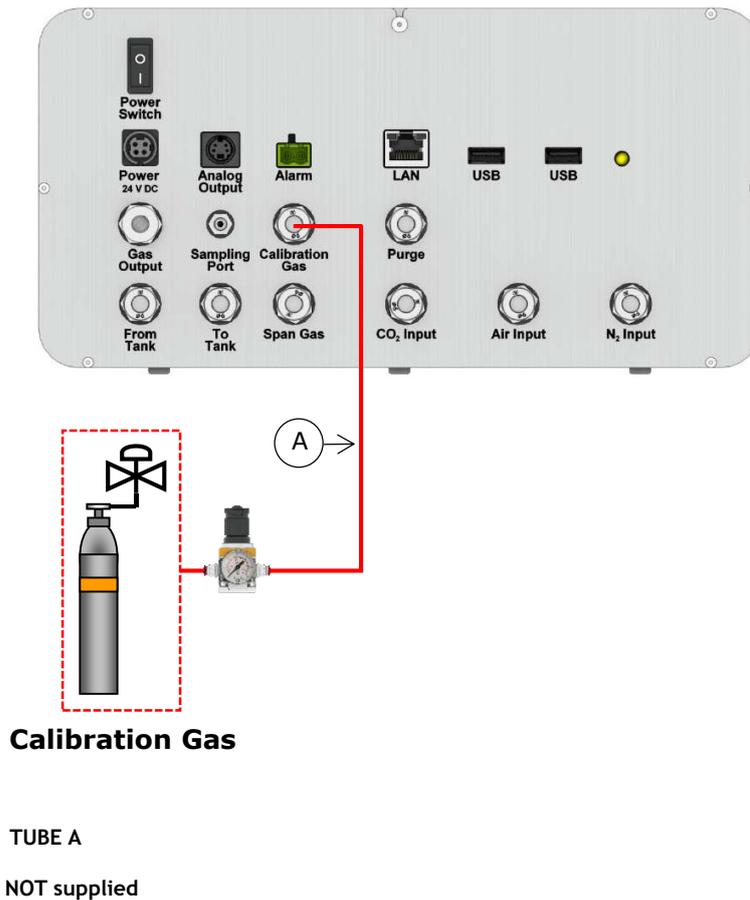

Figure 14 Calibration gas tank connection
- If a calibration gas tank is available (not supplied by Okolab), introduce the pressure gauge (supplied by Okolab) between the calibration gas tank and the input gas port labeled “Calibration Gas” on the rear panel of the Tri-Gas-Mixer, as shown in Figure 14. To install the pressure gauge follow the instructions at the point 2.